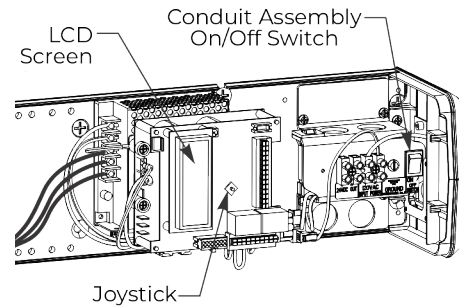

Figure 28 Union Assembly and Spacer not shown
2. Turn On/Off switch to 'OFF' position on conduit assembly. (Figure 28)
- To scroll through menu items, push up or down on joystick. (Figure 28)